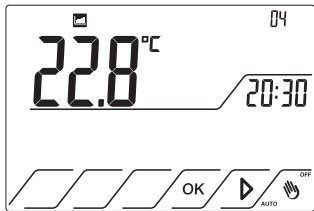

Fig.50
12.6 Press  to move on page 4. Fig.50